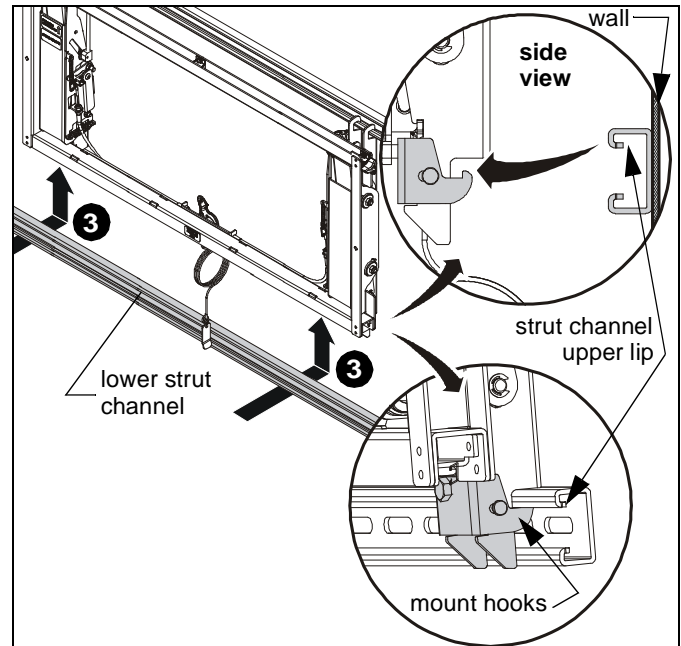

Figure 8
3. **LVXSUP only:** Add lower strut channel to bottom of all mounts in row by lifting strut channel up from below mounts and setting upper lip of strut channel onto mounts' latching hooks. (See Figure 8)